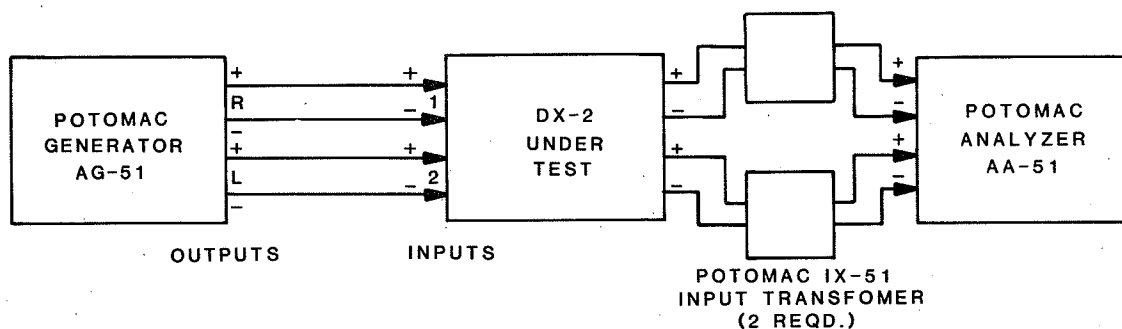

FIGURE 5-1 EQUIPMENT SET-UP FOR ALIGNMENT AND TROUBLESHOOTING
The DX-2 is designed so that a minimum amount of alignment is necessary. One PCB mounted alignment control is used for each channel. These controls are aligned at the factory for unity gain. No normal or routine re-alignment is required. Each control is used to adjust the output level of the respective channel so that it equals the input level for that channel. When any of the integrated circuits are changed the unit should be checked for unity gain and re-aligned as required. See Figure 5-1 for the equipment set-up for this alignment.
1. Set-up the equipment as shown in Figure 5-1. Channel 1 and Channel 2 are tested separately.